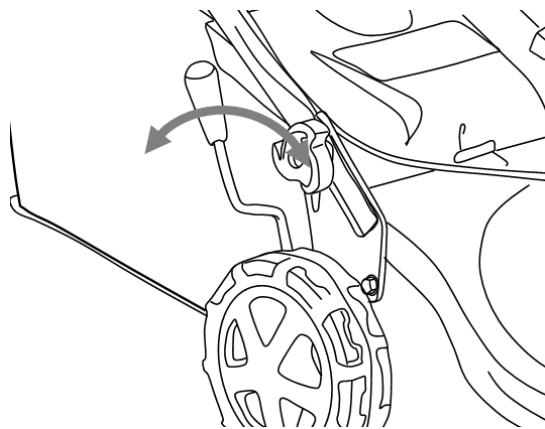

Fig.6
- 2) Return the lever to the locating notch to set the desired cutting height. Make sure the handle fits snugly and securely into its serrated holder. Obstructions such as grass clippings should not hinder his movement or positioning.(Fig. 6).